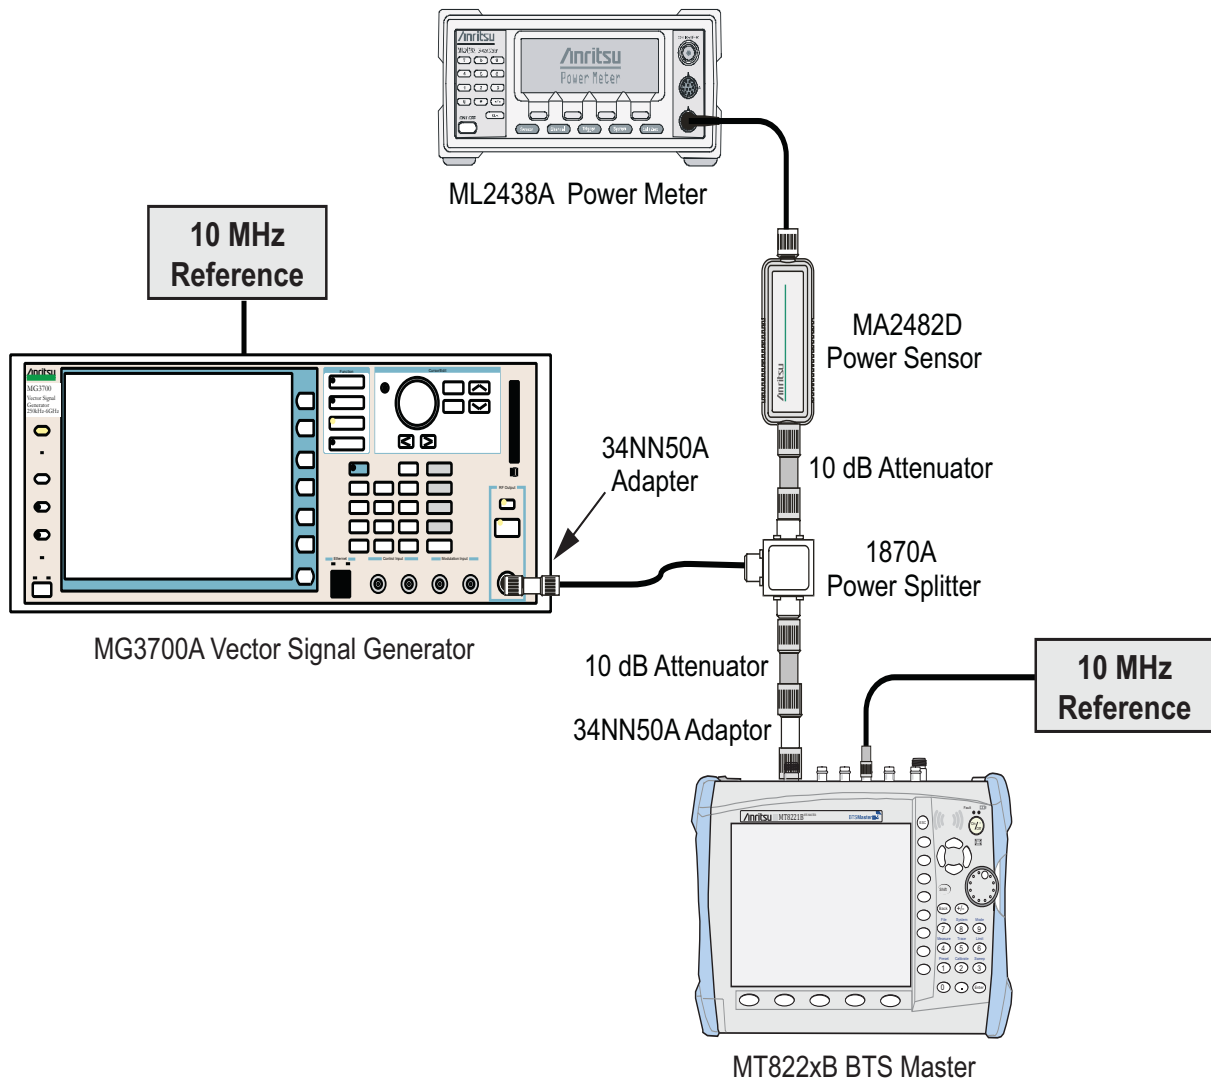

Figure 5-9. Mobile WiMAX Signal Analyzer Option Verification
4. Connect the Power Sensor, 1870A splitter, 10 dB attenuators (quantity 2), as shown in Figure 5-9.